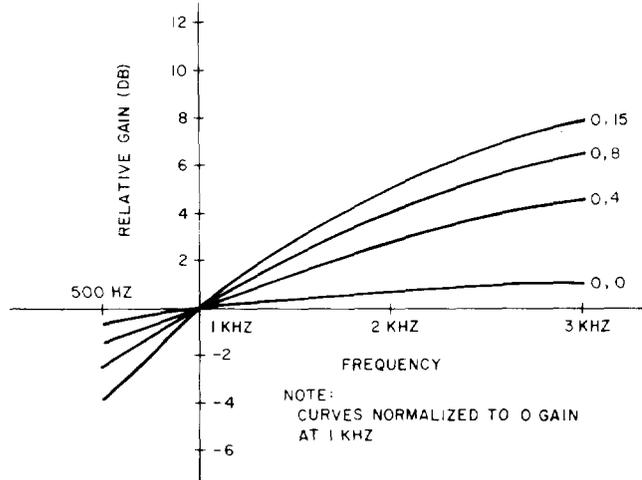
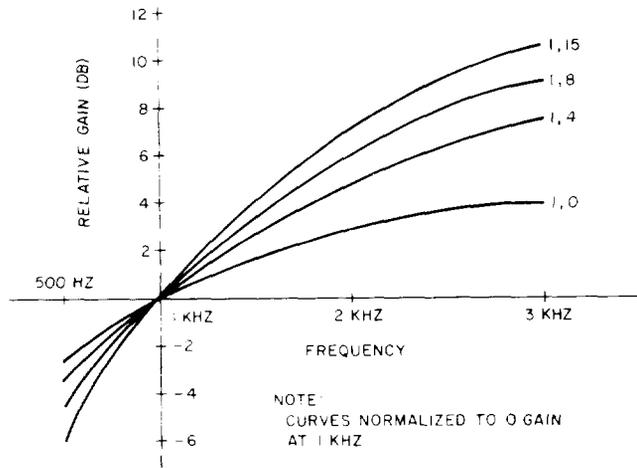

Fig. 3—Equalizer Frequency Response With C=0 (off)
Fig. 4—Equalizer Frequency Response With C=1 (on)
3.02 Figures 3 and 4 give the frequency response for various equalizer and gain settings. Figure 3 provides the response curves for various equalizer settings with the C switch set for 0 (off). Figure 4 provides curves for the same equalizer settings with the C switch set for 1 (operated).